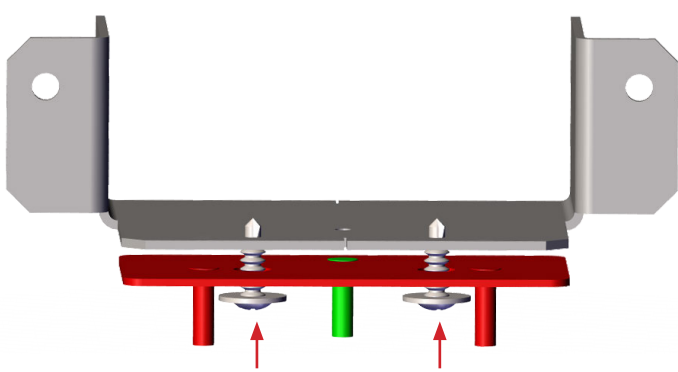

Fig. 3: Attach retrofit control pad plate (front view)
1. Screw two #8 self tapping screws through retrofit control pad plate (Fig. 3 - shown in red).